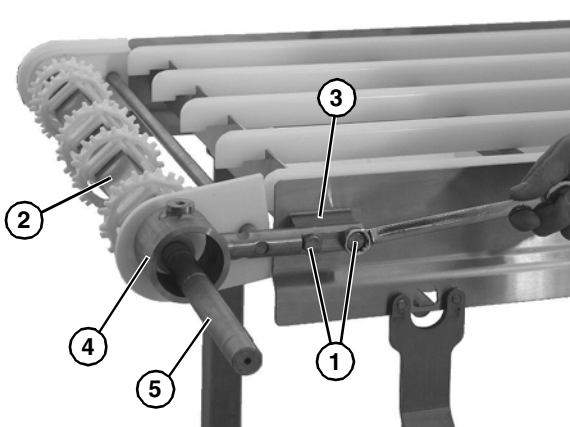

Figure 59
7. Remove two bolts (**Figure 59, item 1**) on each side, and slide the drive tail assembly (**Figure 59, item 2**) off the mounting posts (**Figure 59, item 3**).
8. Slide the motor support bracket (**Figure 59, item 4**) off the drive spindle shaft (**Figure 59, item 5**).